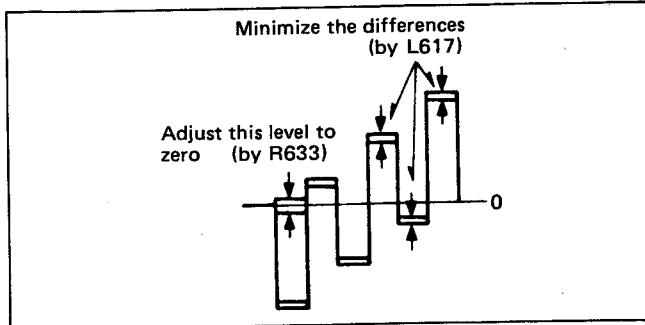

Fig. 29
4) Adjust Delay Line Adj. VR (R633) and Delay Line Matching Trans. (L617) to achieve waveform shown in Fig. 29.